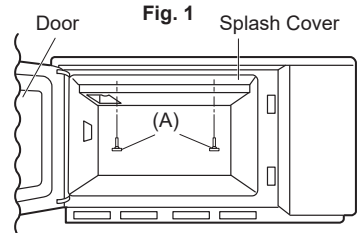

Fig. 1
1. Remove two thumb screws (A) as shown in Fig. 1.
2. Secure the cover to the oven ceiling with two thumb screws (A) as shown in Fig. 1.